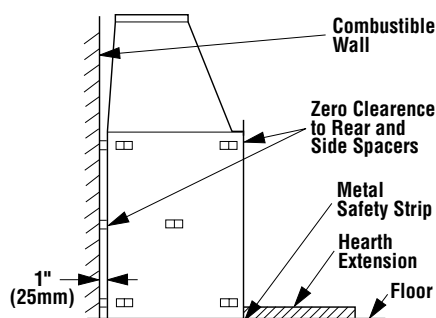

Figure 7-1
**Step 2.** Insert the metal safety strips, packaged with the fireplace, beneath the fireplace, as illustrated in **Figures 7-1 and 7-2, below**. The safety strips should overlap 1" (25 mm) for continual coverage of the floor.